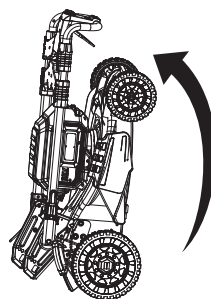

Fig. 13D
6. Store the lawn mower in the folded upright position. Ensure the lawn mower is stable and placed on a flat, even surface to prevent it from tipping over (Fig. 13D).